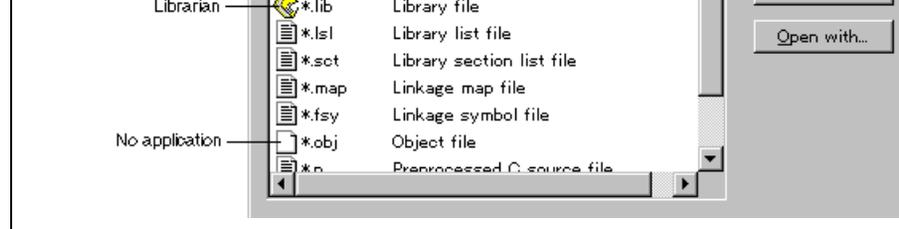

Figure 2.11: File Groups and Applications
In addition to opening a file with the editor, the “File Extensions” dialog allows you to associate any application with any file group so that when you double click on a file in the “Projects” tab of the “Workspace” the appropriate application is launched with the file. Figure 2.11 shows the association between a word processor and the extension .DOC.
1. Select the file group to be associated from the “File Extensions” dialog (figure 2.11).